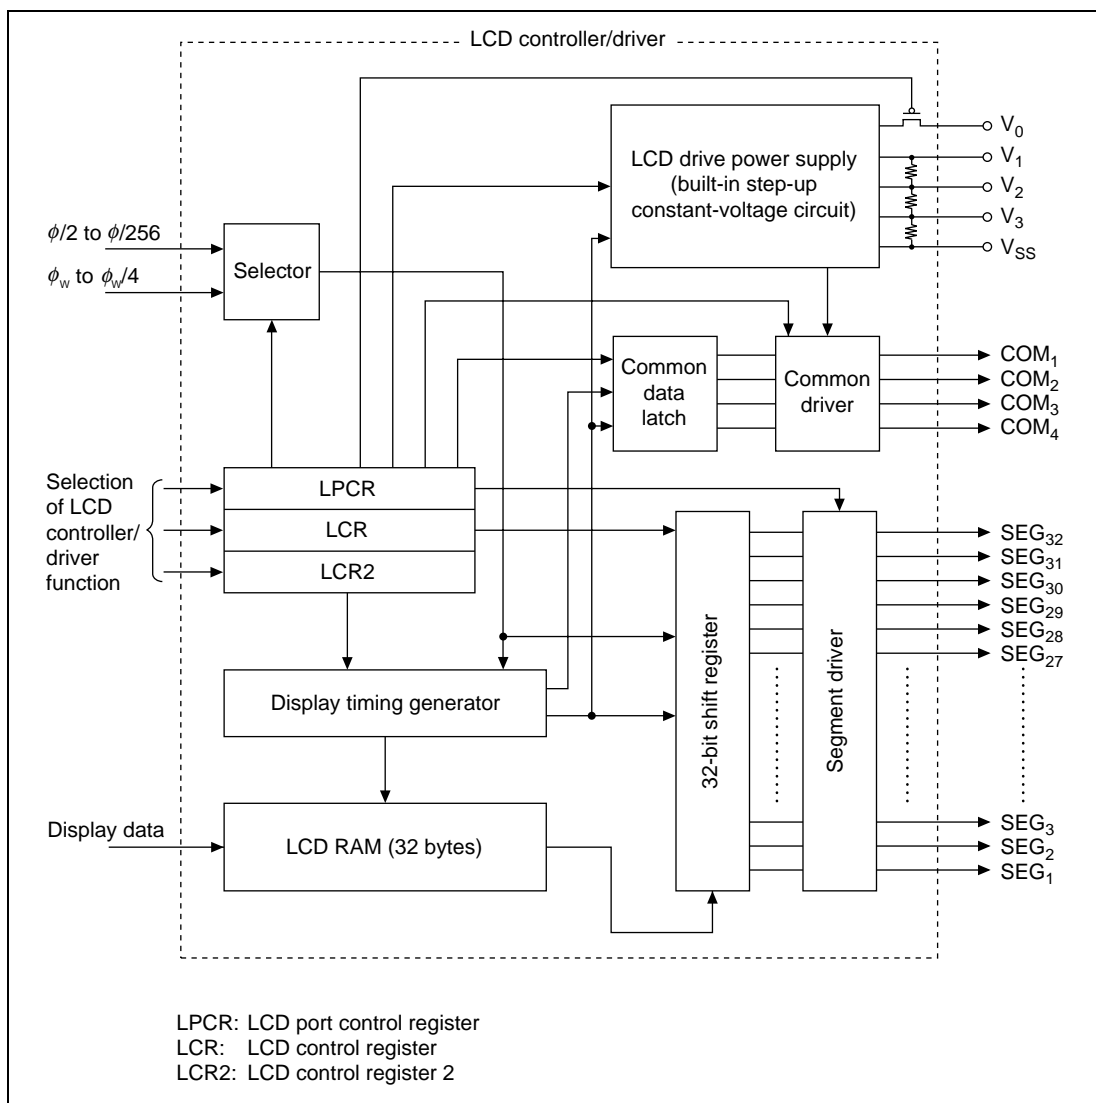

Figure 2 Block Diagram of LCD Controller/Driver (LCD Display with 1/4 Duty)
2. Figure 2 is a block diagram of the LCD controller/driver used in this task examples.